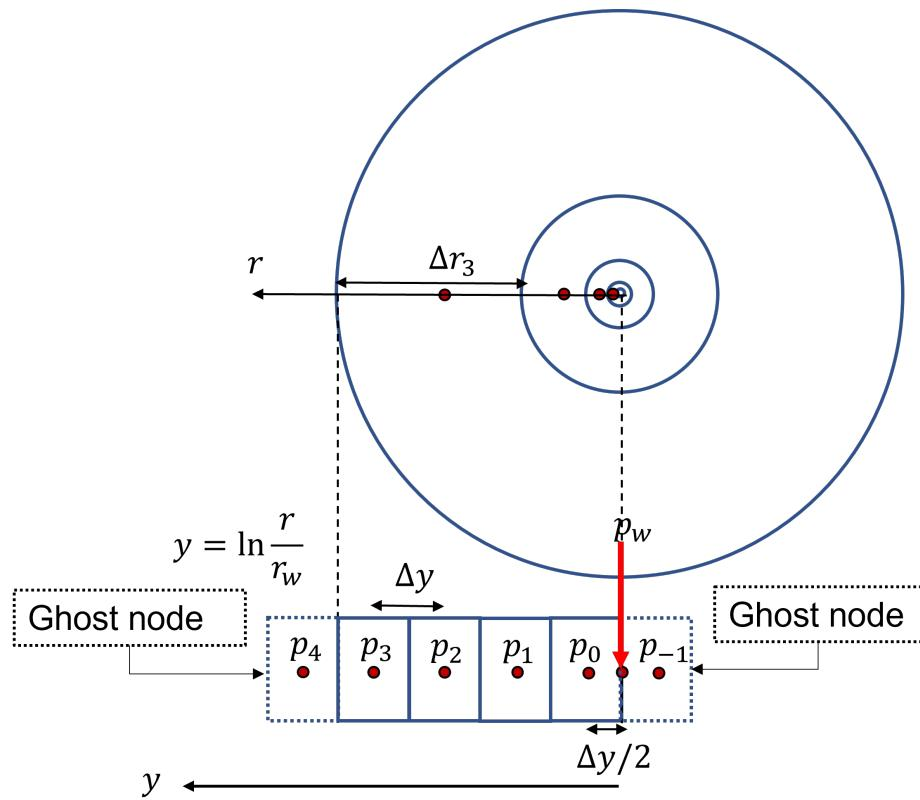

Figure 5: Sketch of the coordinate transformation  $r \rightarrow y$ . Note that the pressure is always evaluated at the center of the  $y$ -blocks.
See figure 5, for a visual image of the effect of this transformation. In the new  $y$ -coordinate, equations (7), (9), and (10) are transformed into
Figure 5 illustrates the unknown pressure values for the case  $N = 4$ .